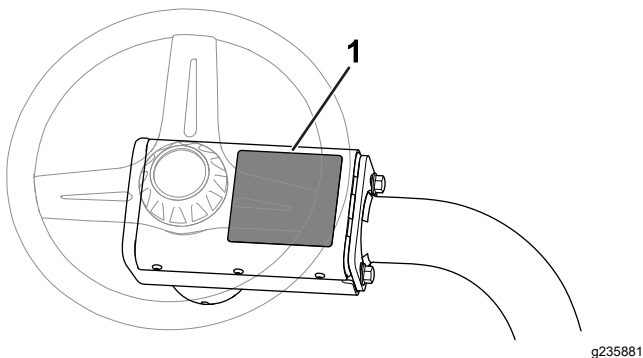

Figure 17
- **CE warning decal**: Apply the CE warning decal (Part Number 139-8321) over the existing warning decal (Part Number 139-8320) on the steering-wheel cover; refer to Figure 17.